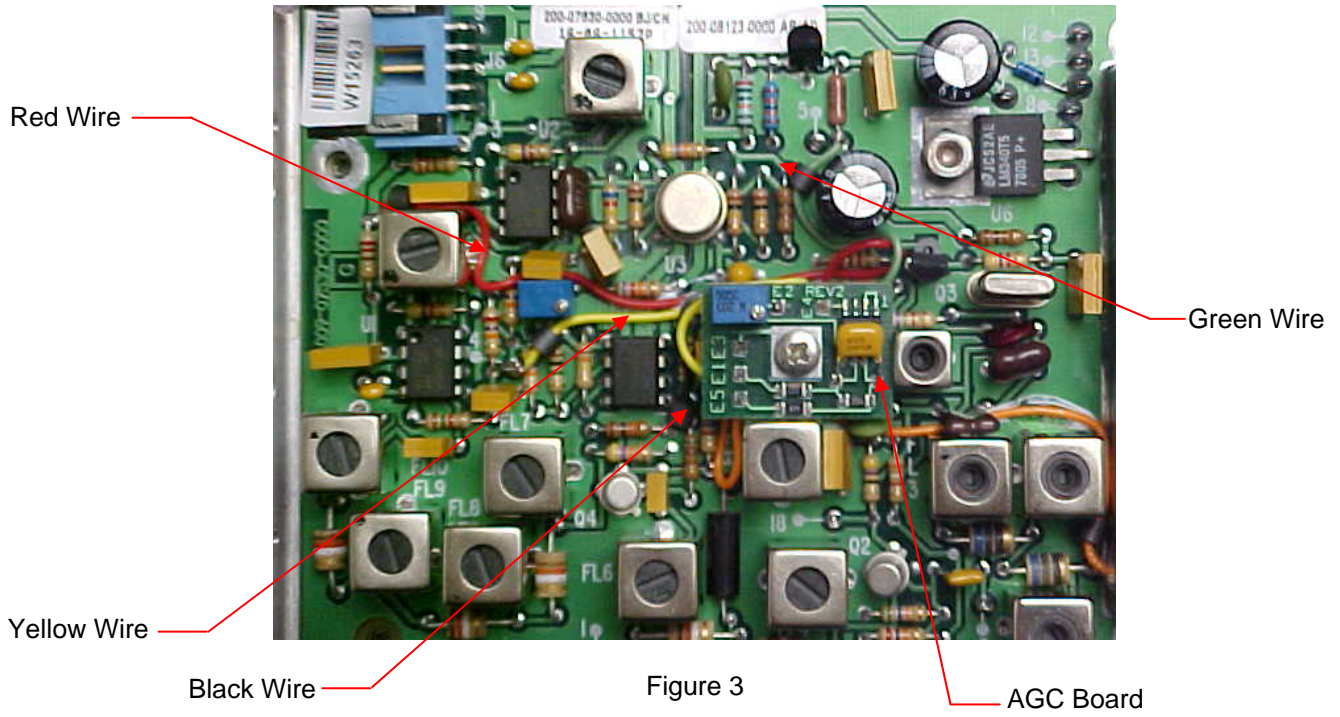

Figure 3
10. Reposition the remaining AGC wires and beads as illustrated in Figure 3.